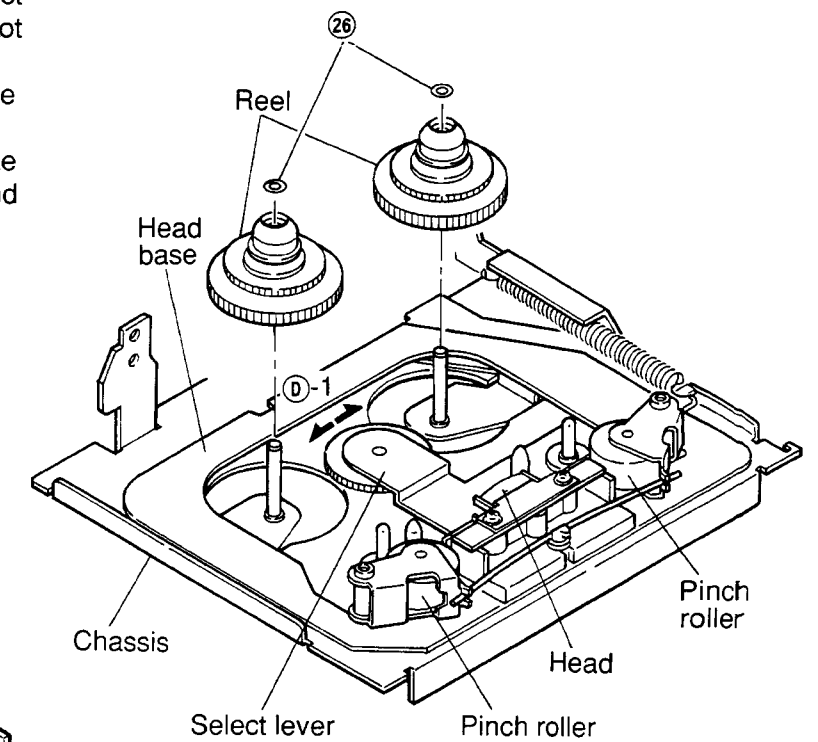

Figure 19
- (1) Remove M1.7 two lock washers (26) (Refer to figure 19).
- (2) Move the select lever in the direction marked D-1 in the Figure and remove the reel by gripping the reel gear as shown in Figure 19.
- (3) After replacement, mount the new reels following the removal steps in the reverse order.
- (4) After mounting, check the tape speed and the wow and flutter with test tape MTT-111.